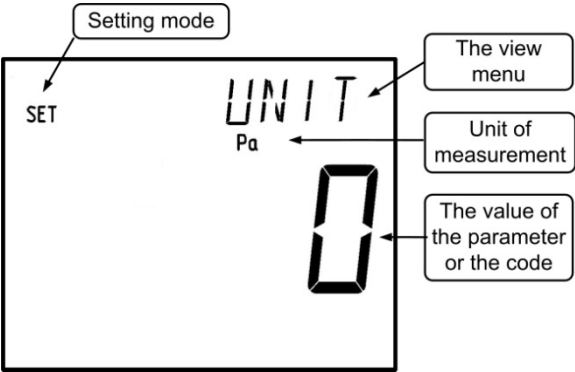

Figure 2 - Display elements, operation parameters setup mode, selection of units of measurement
5.4 Press button 3 and hold it for over 2 seconds to enter the operating parameters setup menu. There appears the word SET on the display and name of the parameter in the top right corner, under which you can see its code or value (Figure 2).